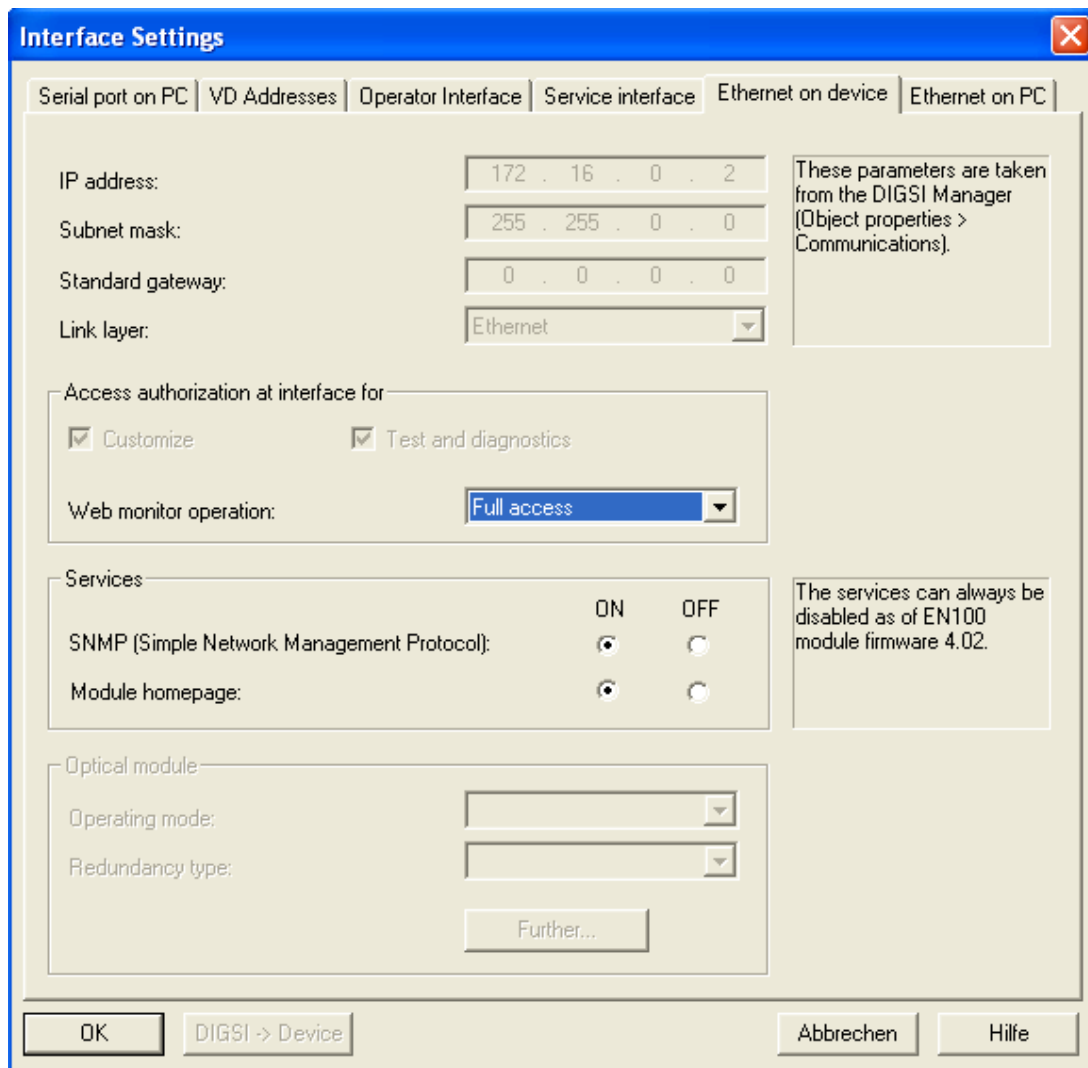

Figure 3-3 DIGSI device interface settings necessary for the firmware update over the Ethernet interface
- A firmware reboot and activation for the module firmware may be possible over Web Monitor on EN100 module homepage. Please verify with the DIGSI 4 setting, that Web monitor have read and write access (Required option is **Full access**) and the Module homepage must be ON. Required settings are shown in fig. 3-3. Activating the FPGA – update requires to switch the device OFF for min. 20 seconds. After the restart of the device the FPGA – update will be activated.